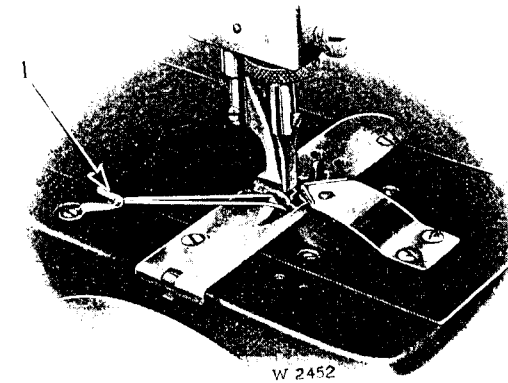

FIG. 9. THREADS HELD BY THREAD CUTTER
hold of the end of the needle thread, leaving it slack from the hand to the needle, depress the foot treadle and turn the machine driving pulley over from you one revolution, thus catching the bobbin thread; draw up the needle thread through the hole in the throat plate and the bobbin thread will come up with it. Pass the two threads back and under the thread cutter (1) as shown in Fig. 9.
Draw the work to the left and pass the threads under the thread cutter (1, Fig. 9, page 7) to cut them off and hold them for the next fly.